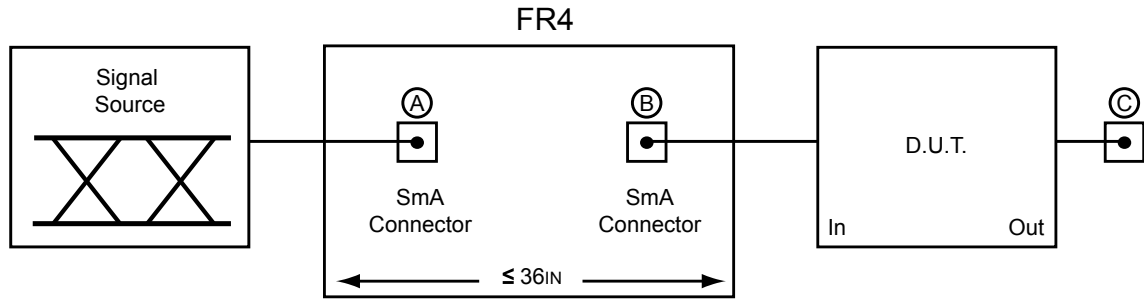

Figure 5. Test Condition Referenced in the Electrical Characteristic Table
- K28.7 pattern is applied differentially at point A as shown in Figure 5.
- Total jitter does not include the signal source jitter. Total jitter (TJ) = (14.1 × RJ + DJ) where RJ is random RMS jitter and DJ is maximum deterministic jitter. Signal source is a K28.5 ± pattern (00 1111 1010 11 0000 0101) for the deterministic jitter test and K28.7 (0011111000) or equivalent for random jitter test. Residual jitter is that which remains after equalizing media-induced losses of the environment of Figure 1 or its equivalent. The deterministic jitter at point B must be from media-induced loss, and not from clock source modulation. Jitter is measured at 0V at point C of Figure 5.